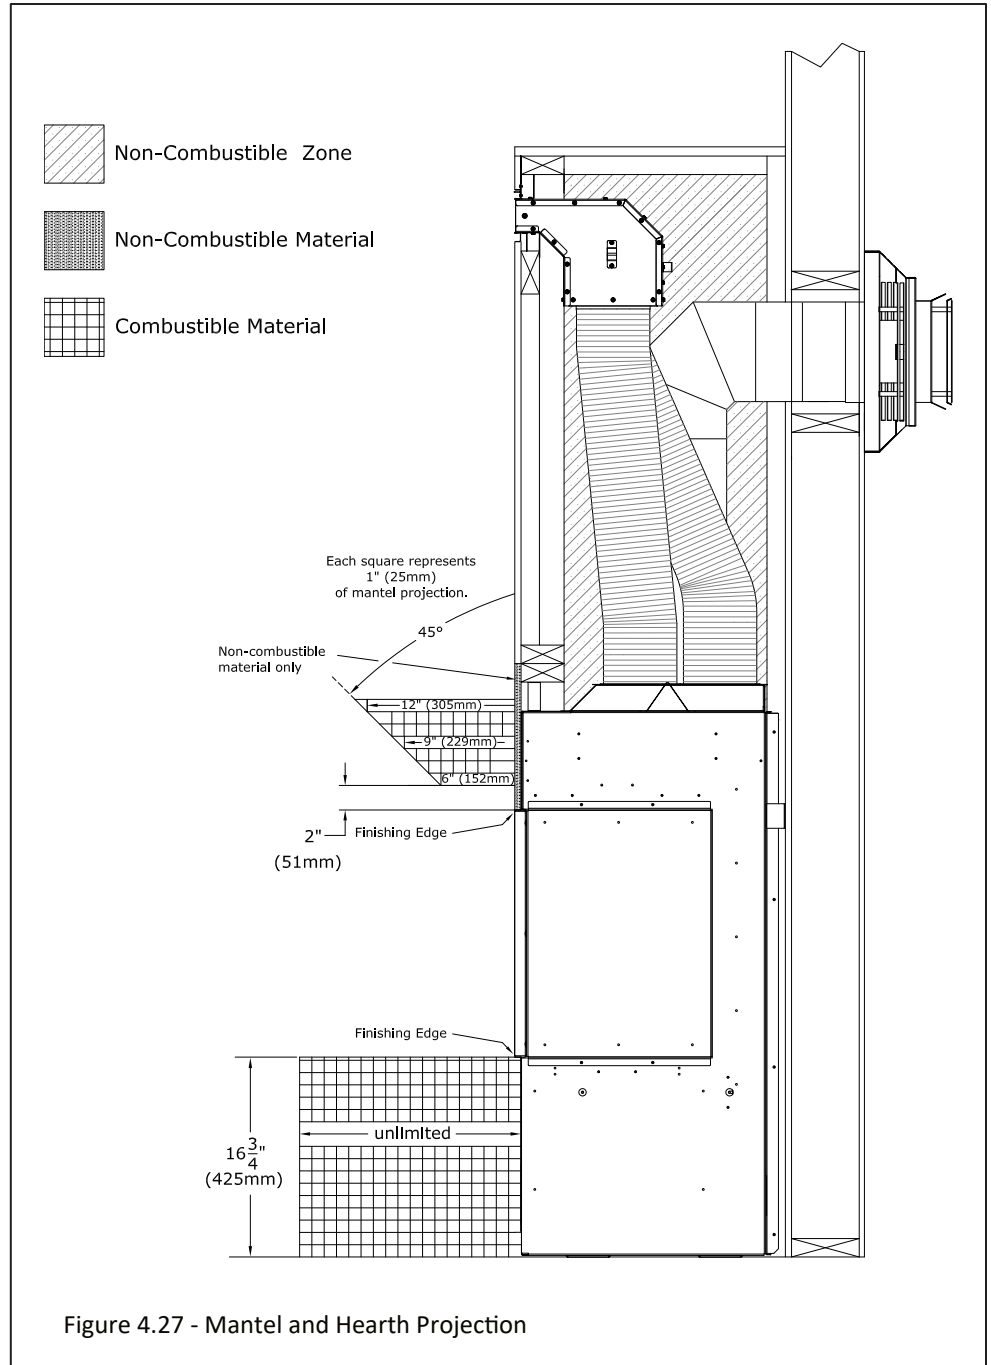

Figure 4.27 - Mantel and Hearth Projection
- **Combustible Mantel Projections:** A maximum of a 6" (152mm) mantel can be installed at 2" (51mm) above the top finishing edge. Mantel projections can increase 1" (25mm) of depth for every 1" of height starting at the 6" (152mm) mantel. See Figure 4.27.
- **Combustible Hearth:** Combustible hearth can have an unlimited projection. Hearth can be raised flush to the bottom finishing edge. See Figure 4.27.